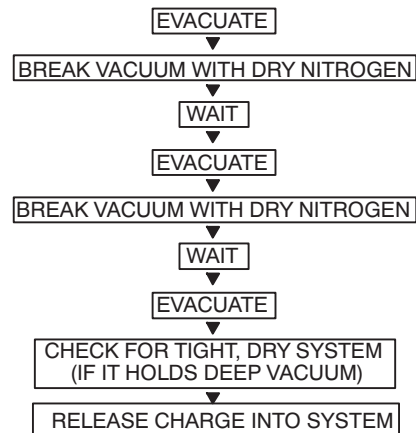

Fig. 12 — Triple Evacuation Method
The triple evacuation method should be used. Refer to Fig. 12 and proceed as follows:
5. Repeat this procedure as indicated in Fig. 12. System will then be free of any contaminants and water vapor.